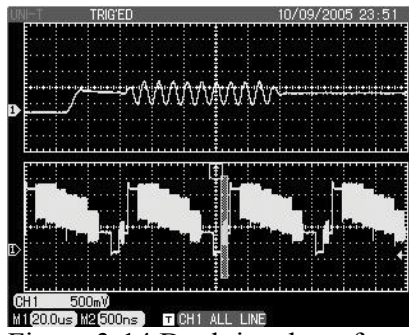

Figure 3-14 Dual time base function
4. Press [F1] to select dual time base, then press [F2] to select CH1. Press [F3] to set time base graticule to M1. Adjust the M1 time base range with the SEC/DIV knob as shown in Figure 3-14. Then press [F3] to select M2 and adjust the M2 time base range with the SEC/DIV knob as shown in Figure 3-14.